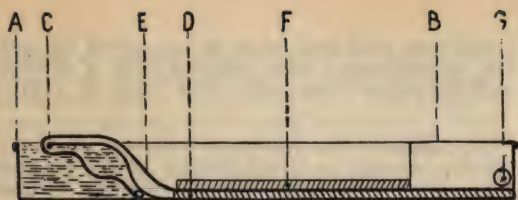

Fig. 1
**RAPID WASHING OF PLATES AND PRECIPITATES.**—L. Lumière suggests the following distinctly novel and effective method of washing plates and precipitates by capillary attraction, diffusion and displacement, which should be of considerable interest to those who have to pay water bills. It is a well-known fact that a woven cloth acts as a syphon if hung over the edge of a basin, due to the capillary attraction in the interstices of the fibers. The nature of the fibers, the closeness of the weave and the viscosity and surface tension of the liquid naturally play an important part in the rapidity of the flow; but with both paper and cloth it is practically constant for a given height of fall, which with cloth is about 18 cm. Lumière suggests a metal dish made as shown in Fig. 1, in which A is the dish turned up at one end to form a cover B, practically a little reservoir. At the A end is also a reservoir formed by the curved piece C. On the bottom of the dish is placed a sheet of glass A, over which is placed the cloth E, which must be long enough to reach to the bottom of the two reservoirs, and G is a waste pipe.